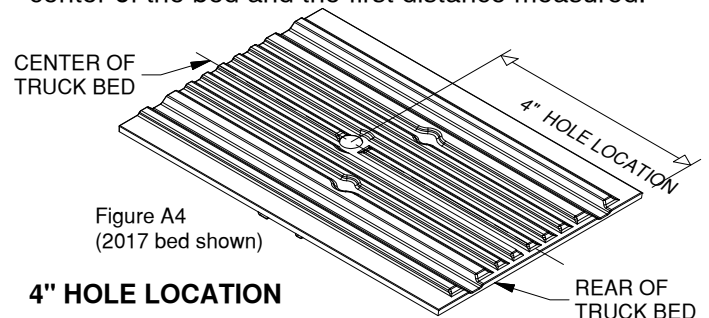

Figure A4
- 8. Mark the 4" hole location.** Using a tape measure hooked over the rear edge of the bed (at tailgate end), measure the location for the hole as shown in Figure A4. Next, locate the center of the bed by measuring the distance between the wheel wells and dividing by two. The center of the hole will be at the intersection of the center of the bed and the first distance measured.